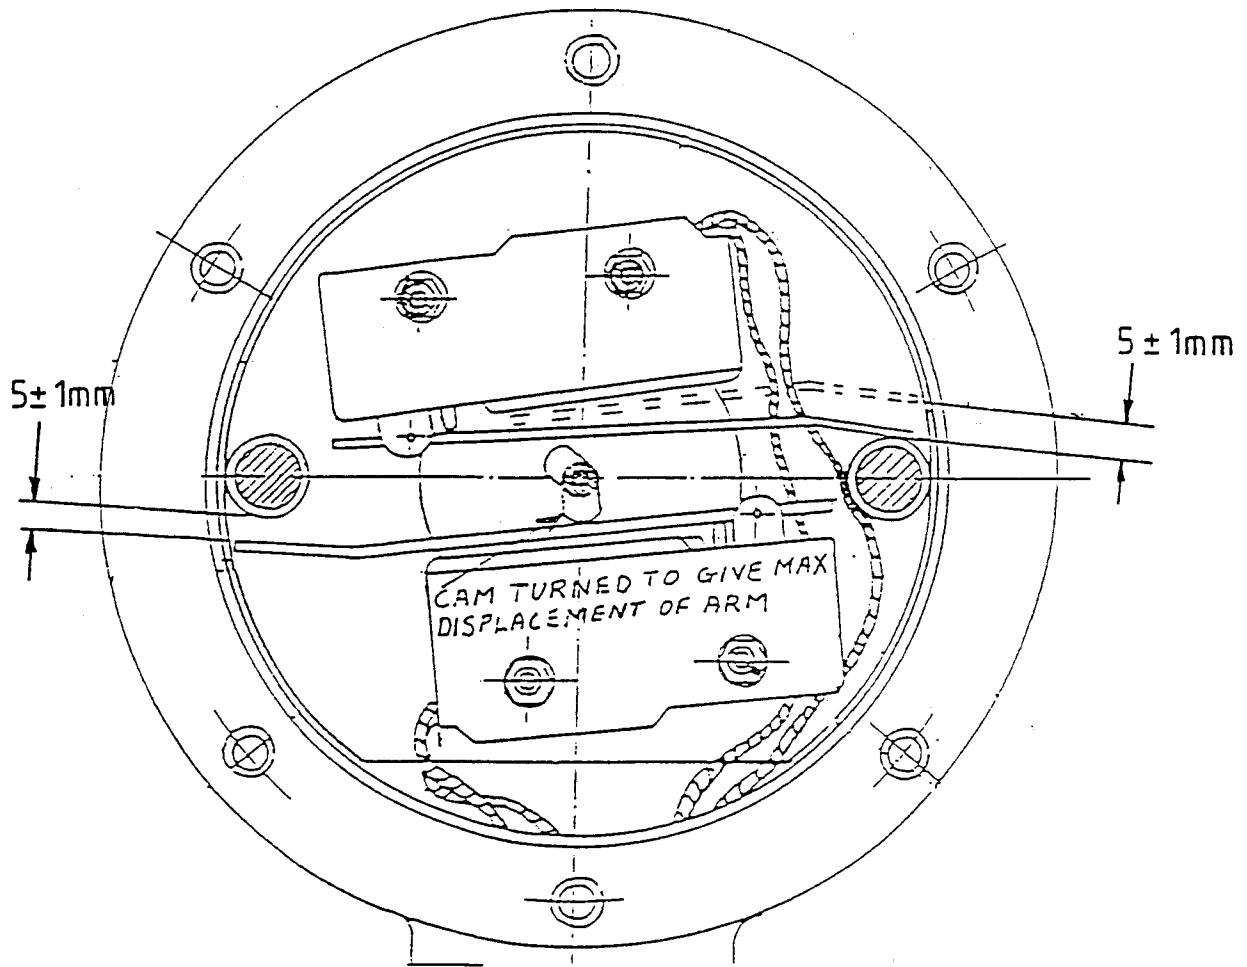

Figure 7. Microswitch Arm Travel - M32 Units
- 1.4 Check that the end 10mm section of both arms is bent away from the microswitch sufficiently such that the gap between the arm and the brass spacer is 5mm  $\pm$ 1mm, as shown on Figure 7. If necessary, adjust the bend with long nosed pliers to give this 5mm gap.